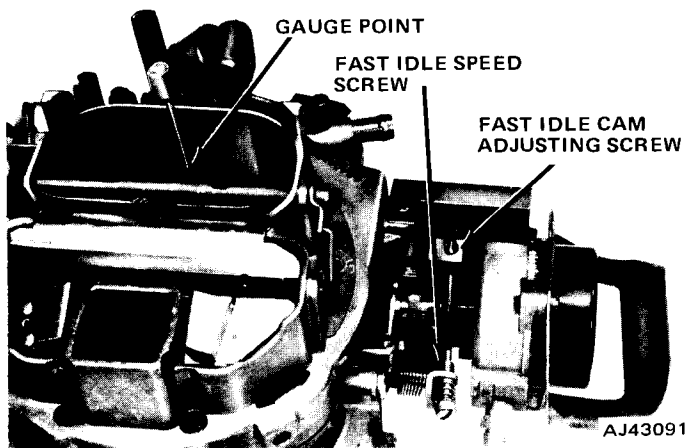

Fig. 4-81 Fast Idle Cam Linkage Adjustment
(1) Rotate choke cover 1/4-turn clockwise (rich) and tighten the retaining screws.
(2) Operate the throttle to allow the choke valve to close completely.
(3) Push down on the fast idle cam counterweight until screw is in contact with the second step (index) and against the shoulder of the high step.
(4) Measure the clearance between the lower edge of the choke valve and the air horn wall (fig. 4-81). Refer to Carburetor Service Specifications for the correct setting.